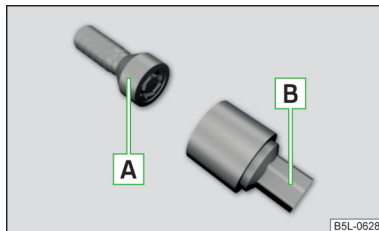

Fig. 164
The anti-theft wheel bolts protect wheels from being stolen. These can only be removed/tightened with the aid of the adapter **B** » Fig. 164.
- The adapter **B** » Fig. 164 with the toothed side all the way into the inner teeth in the head of the anti-theft wheel bolts **A** stuck.